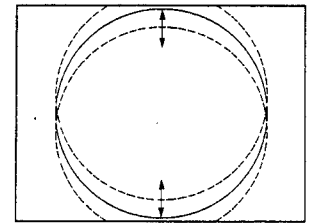

fig. 3
- d) Adjust the vertical size to obtain overscan (fig. 3).